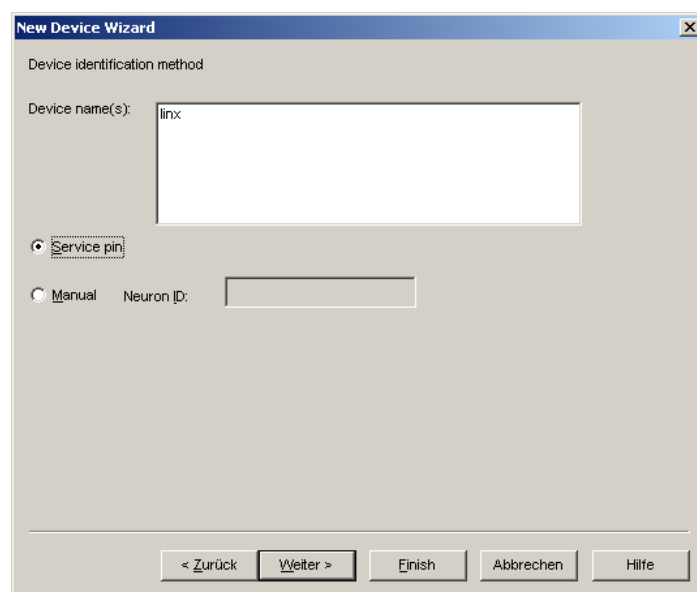

Figure 97: Use Service Pin.
6. Check Service Pin as the device identification method as shown in Figure 97 and click **Next**.